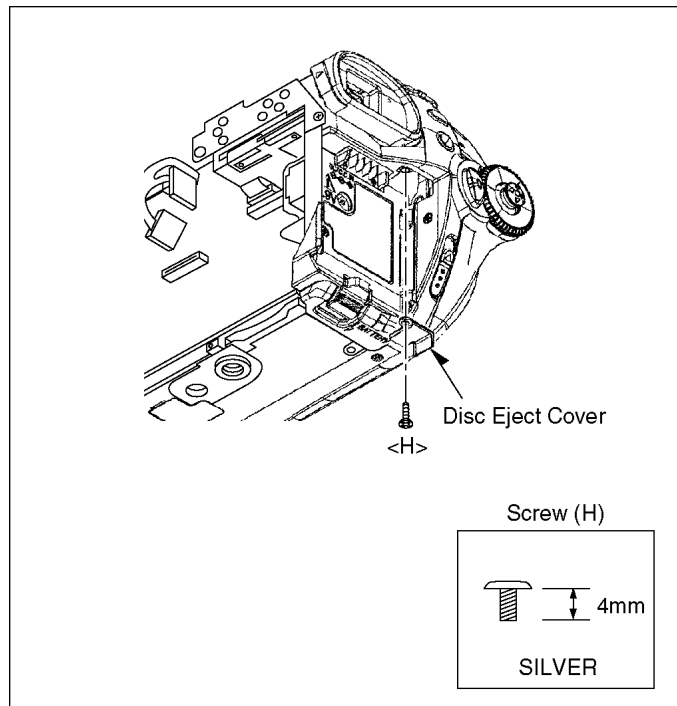

Fig. D4
| 3 | Rear Case Unit | Fig. D4 | 1-Screw (H) Disc Eject Cover |